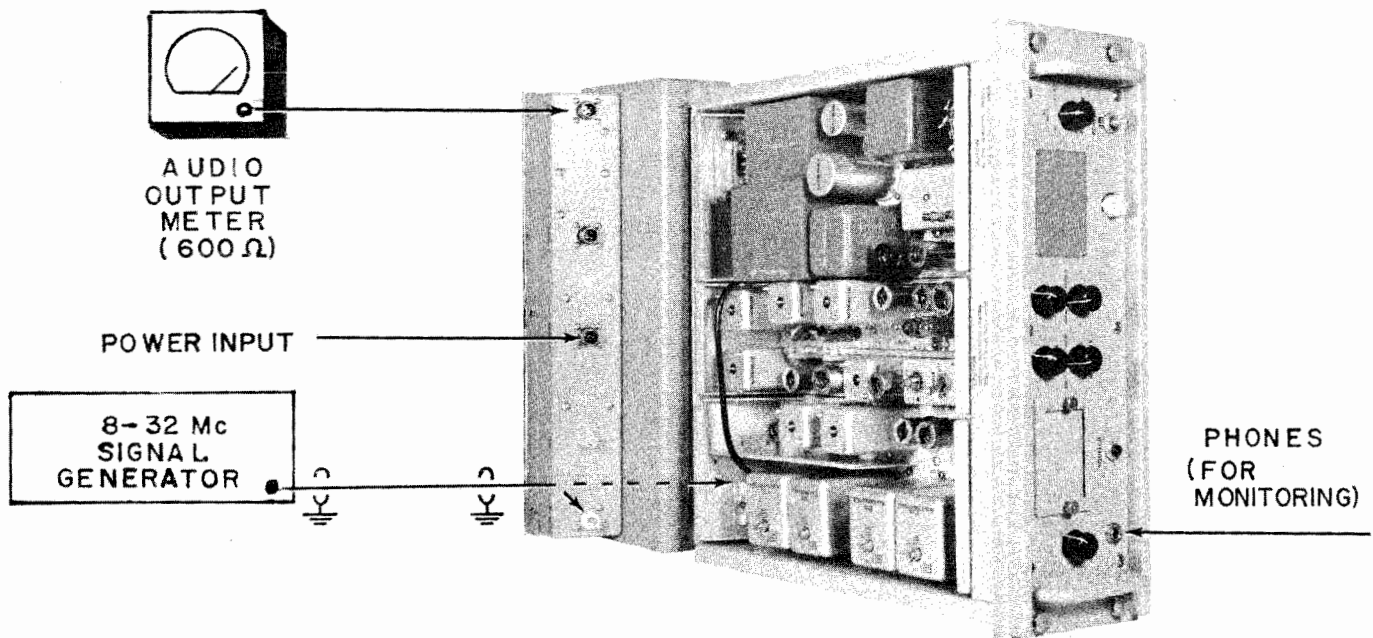

Figure 7-12. Sensitivity Test Set-up
(2) Connect a 600 ohm audio output meter across pins A and B of the AUDIO receptacle (J505) located on the rear panel. (See figure 7-12.) Proceed with the test, as outlined in tables 7-9, 7-10.